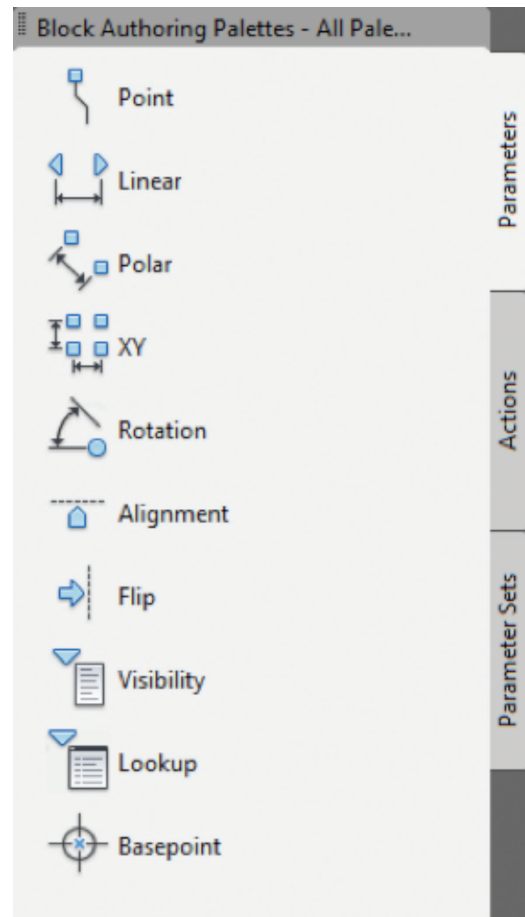
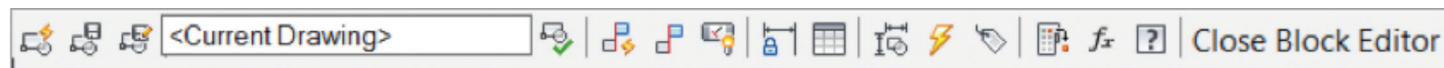
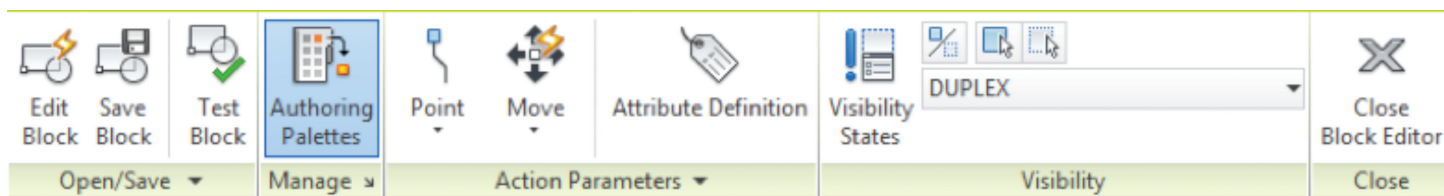

Figure 2
Figure 5
Figure 6
3. Choose a Parameter. There are various parameters to choose—see Figure 2 for a screenshot of the dynamic options palette and the descriptions of each option we will be covering.
I open an existing block called 'OUTLET' in AutoCAD and type Bedit to open the block editor. Figure 5 shows the block editor toolbar. If you are not a ribbon rebel like me, see Figure 6 for the ribbon version of the block editor.
When entering the block editor, you will get the dynamic options palette shown in Figures 2 and 3, and the block editor toolbar or palette shown in Figures 5 and 6. As stated above, my first step is going to make the outlet represent either a duplex or quad outlet, and to do this I will use the Visibility option off the dynamic block palette.